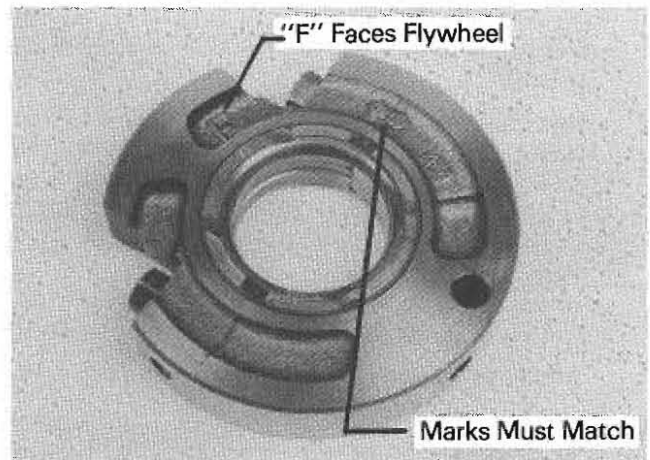

Fig. 3-19 Intermediate Main Bearing
- Place a piece of plastic gauge on each intermediate main crankshaft journal. Disassemble intermediate main bearings and install bearings and housing on crankshaft. The "F" on the body of the main bearing must face the flywheel end of the crankshaft. Make sure the marks on the top and bottom of the bearings also match (Fig. 3-19). Tighten the housing bolts to 33 to 36 ft/lb (45 to 49 N·m). Remove caps and check the bearing clearance.